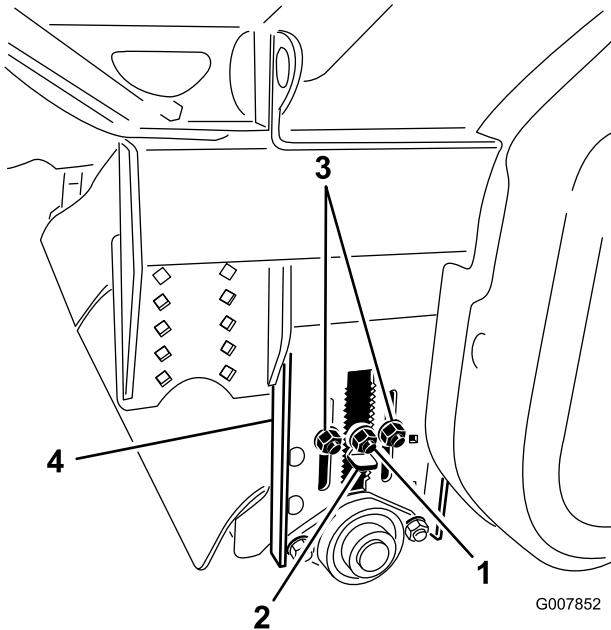

Figure 30
- Before leveling the Core Processor, make sure the pickup brush and the rear roller height are adjusted to the correct height of cut (Figure 30). If the Core Processor is equipped with a new brush, the rear roller adjustment table can be referenced to set the rear roller for proper grass height of cut.